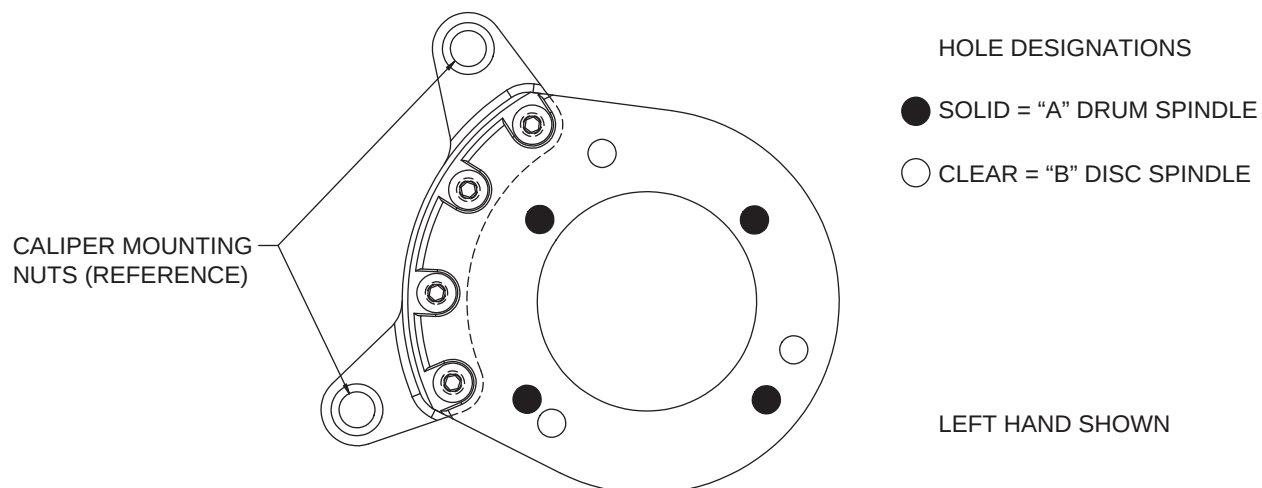
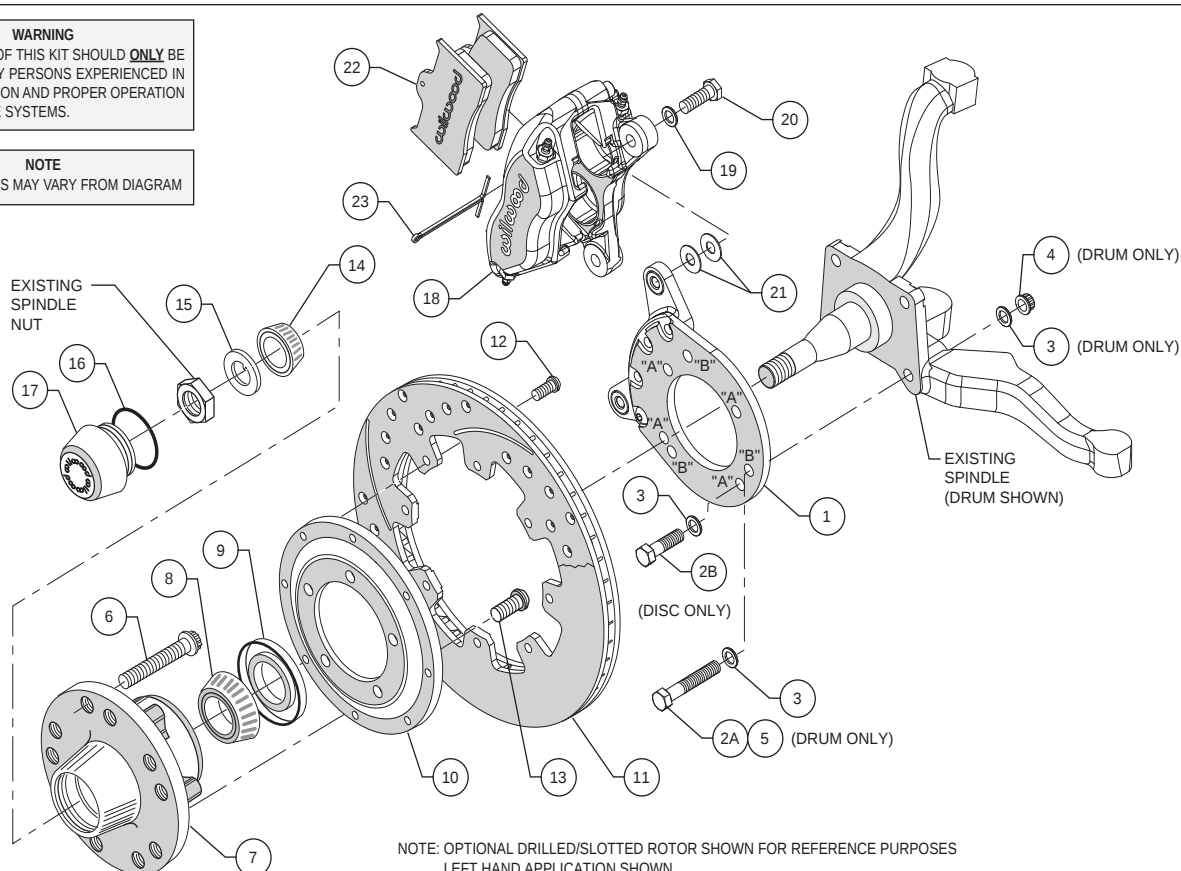
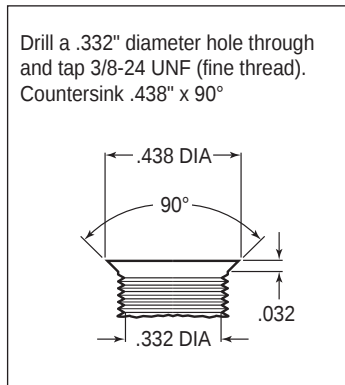
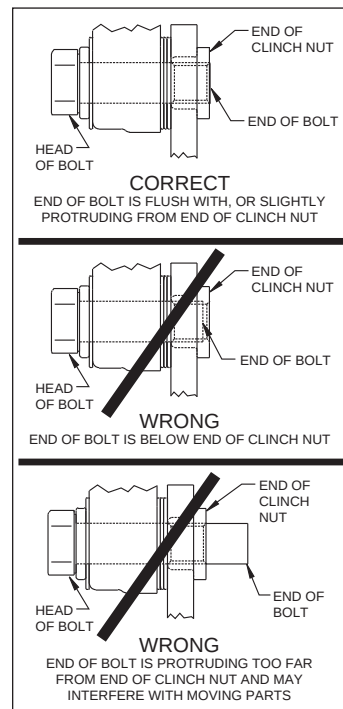

Figure 1. Wilwood Caliper Mounting Bracket
Figure 2. Typical Installation Configuration
Figure 3. Drill and Tap Detail
Figure 5. Clinch Nut Engagement Diagram
This kit has been designed for use with both the disc brake or the drum brake configuration of vehicle. The only difference is in how the Wilwood caliper mounting bracket is installed. The same bracket is used for both configurations; the disc brake version utilizes three mounting holes while the drum brake application uses four mounting holes (see Figure 1). For your convenience we have supplied bolt kits for both applications (see parts list and Figure 2 as necessary). Use the bolt kit that is applicable to your vehicle and disregard the other one.
NOTE: This modification should be performed by a qualified machinist and completed before assembly of the Wilwood disc brake kit begins. Using the caliper mounting bracket as a template (refer to Figure 1 as necessary), locate and verify the three original holes on the spindle that need to be modified. Drill a .332" diameter hole through all three holes, then tap 3/8-24 UNF (fine thread). Countersink the holes to .438" diameter x 90°, as shown in Figure 3.
Assembly Instructions (numbers in parenthesis refer to the parts list, and Figure 2 on the preceding pages): **CAUTION:** All mounting bolts must fully engage clinch nuts. Be sure to check that all bolts are either flush or protruding through flanged side of clinch nut after shimming, Figure 5.
•**NOTE:** This kit uses the same mounting bracket (1) for both the drum and disc brake spindles. The drum version, Photo 1 uses four mounting bolts (designated "A"), while the disc version, Photo 2, uses three (designated "B"). Refer to Figures 1 and 2 for the basic installation position of the bracket and the "A" and "B" reference designations (not physically marked on the brackets).
For Drum Spindle: Align bracket, using the four "A" holes, to the face of the spindle and attach using bolts (2A and 5), washers (3), and lock nuts (4), as shown in Figure 2. Ensure that the flanged heads of the clinch nuts in the bracket are facing outboard, Photo 1. Torque nuts to 30 ft-lb.
For Disc Spindle: Align bracket, using the three "B" holes, to the face of the spindle and attach using bolts (2B) and washers (3), as shown in Figure 2. Finger tighten. Ensure that the flanged heads of the clinch nuts in the bracket are facing outboard, Photo 2. Remove bolts one at a time, apply red Loctite® 271 to threads, and torque to 40 ft-lb.
- Pack the large inner bearing cone (8) with high temperature disc brake bearing grease (available from your local auto parts store) and install into the backside of the hub (7), Photo 4.
- Install the grease seal (9) by pressing into the backside of the hub (7), flush with the end of the hub, Photo 4.
- Orient the rotor (11) and the rotor adapter (10) as shown in Figure 2 and Photo 5. Attach the rotor to the adapter using bolts (12). Using an alternating sequence, apply red *Loctite*® 271 to the threads, and torque to 25 ft-lb.
- Mount the adapter/rotor assembly (10/11) to the hub (7) using bolts (13), as shown in Figure 2 and Photo 6. Using an alternating sequence, apply red *Loctite*® 271 to the threads, and torque to 55 ft-lb.
- Pack the small outer bearing cone (14) with high temperature disc brake bearing grease and install into hub (7). Slide the hub/rotor assembly onto the spindle. Secure using spindle washer (15) and OEM spindle nut, Photo 7. Adjust bearings per OEM specifications. Install saved OEM nut lock (if any) and a new cotter pin (not included).
- Screw dust cap (17) into hub (7), Photo 8. Friction created by the o-ring (16) on the dust cap keeps it from unscrewing. **NOTE:** The O.D. of the existing OEM spindle washer may be larger than the I.D. of the dust cap not allowing it to seat against the hub face. Therefore, use the spindle washer (15) supplied with the kit instead of the OEM washer.
- NOTE:** Please reference the caution statement at the beginning of the assembly instructions. Mount the caliper (18) onto the caliper mounting bracket (1) using bolts (20) and washers (19), as shown in Figure 2. Initially place two .035" thick shims (21) on each bolt between the caliper and the bracket, Photo 9. Temporarily tighten the mounting bolts and view the rotor (11) through the top opening of the caliper. The rotor should be centered in the caliper, Photo 10. If not, adjust by adding or subtracting shims between the bracket and the caliper. Always use the same amount of shims on each of the two mounting bolts. **NOTE:** The end of each bolt must be flush with or slightly protruding from the head of the clinch nut, as shown in Figure 5. If necessary place spare shims between washer (19) and caliper mounting ear to achieve the proper clinch nut engagement. Once the caliper alignment and clinch nut engagement are correct, remove the bolts one at a time, apply red *Loctite*® 271 to bolt threads, and torque to 40 ft-lb.
- Install the disc brake pads (22) into the caliper, with the friction material facing the rotor (11), and secure in place using cotter pin (23), Photo 11.